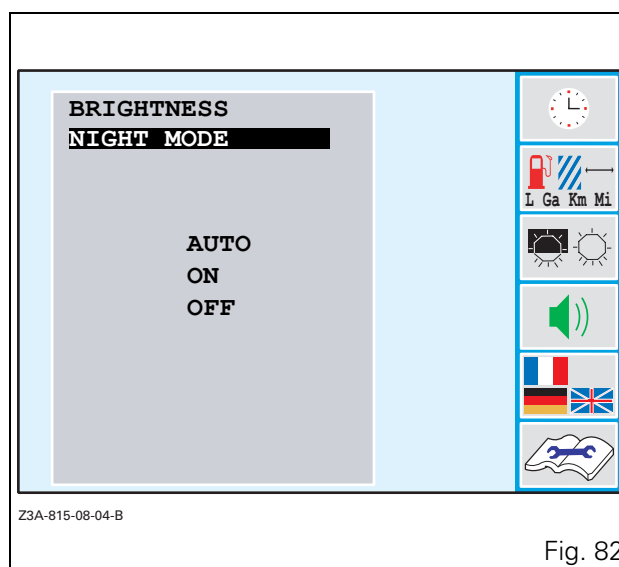

Fig. 82
- Select the NIGHT MODE menu using the encoder (the window Fig. 82 is displayed).